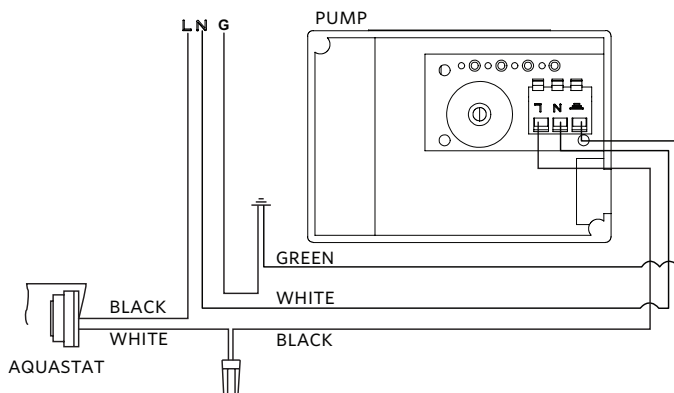

FIG. 4 Astro 2 Series circulator with Aquastat Control wiring diagram
- 3 Connect the black, green and white lead wires according to the wiring diagram (FIG. 4)